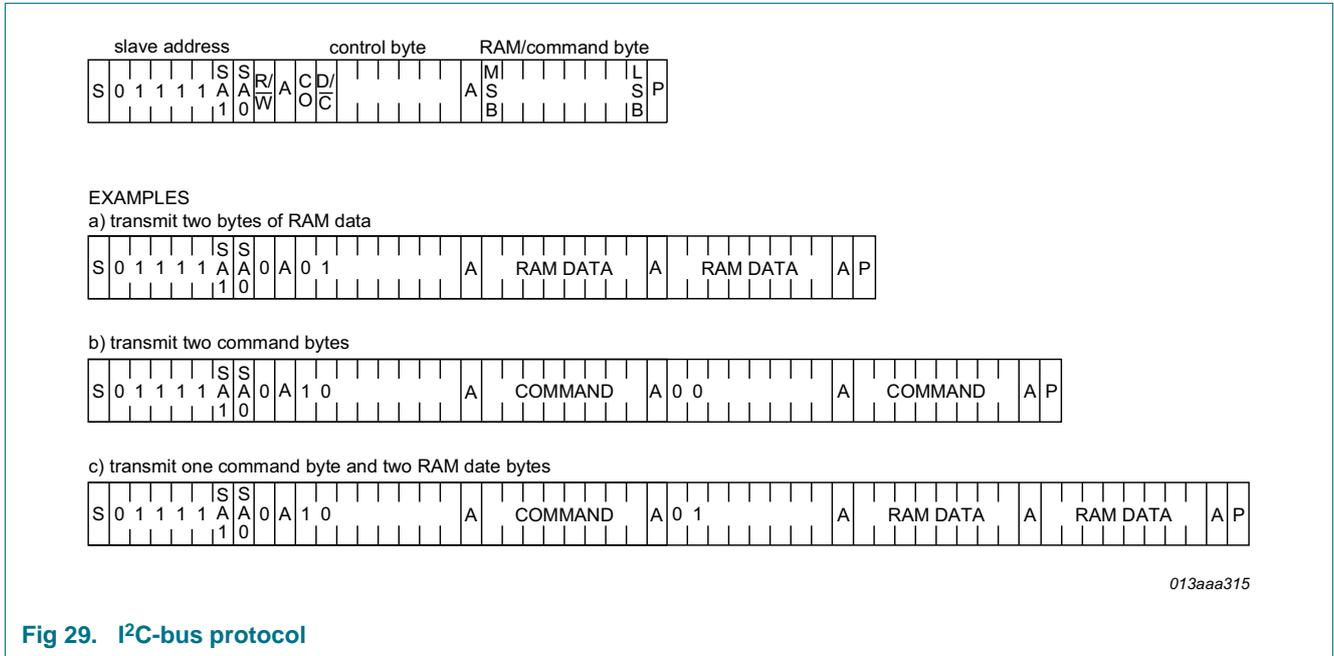
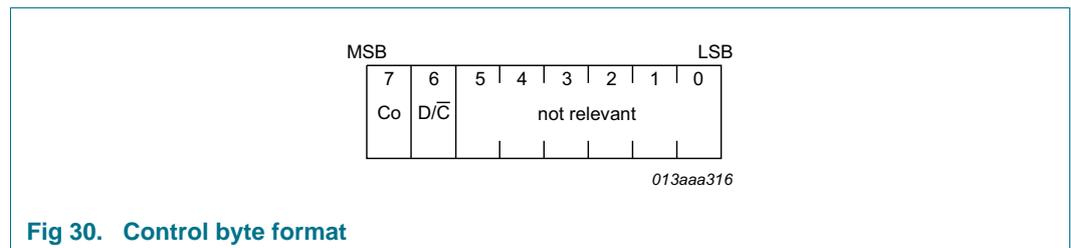

Fig 29. I2C-bus protocol
Fig 30. Control byte format
The I2C-bus protocol is shown in Figure 29. The sequence is initiated with a START condition (S) from the I2C-bus master which is followed by one of four possible PCF8811 slave addresses available. All slaves with the corresponding slave address acknowledge in parallel, all others ignore the I2C-bus transfer.
After acknowledgement, one or more command words follow which define the status of the addressed slaves. A command word consists of a control byte, which defines bit Co and D/C, plus a data byte (see Figure 29, Table 11 and Figure 30).